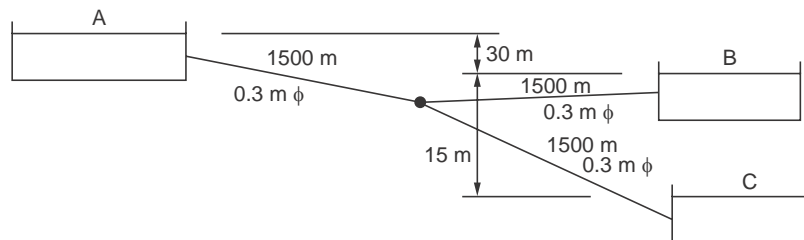

Figure E. 7.24
- E 7.24.** Water is transported from reservoir A to reservoirs B and C by pipe line system shown in Fig. E. 7.24. Determine the flow to reservoirs B and C. $f = 0.04$. **(Q_B = 28.3 l/s, Q_C = 90.7 l/s)**